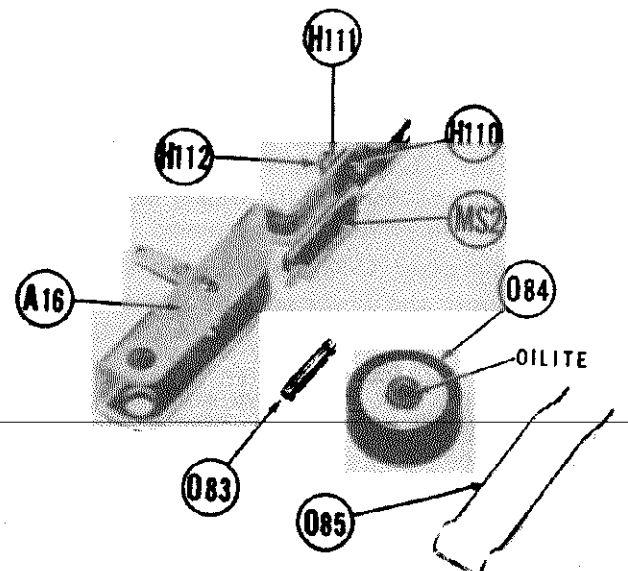
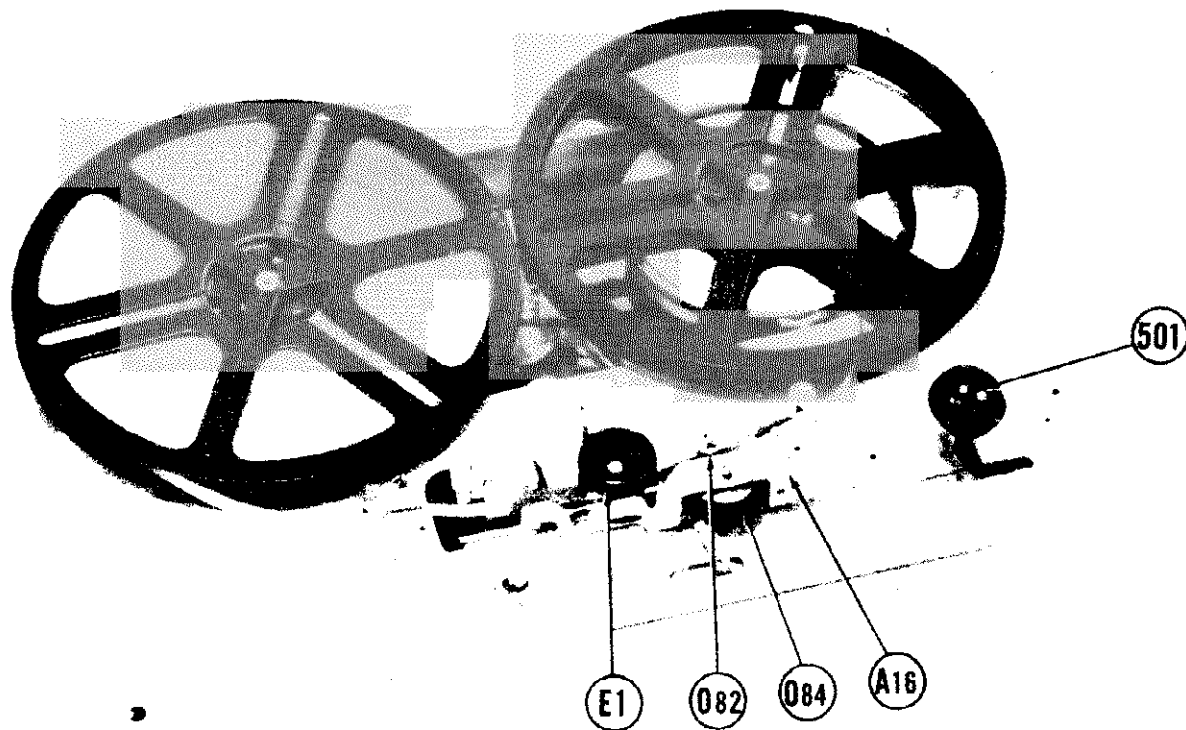

Fig. 9—Pressure Wheel Assembly
Fig. 10—Reeling Mechanism—Reels and Ribbon in position
4. A pressure wheel (O-84 Fig. 9) and a pressure pad (MS-2) are assembled on a bracket (A-16) (Also see Fig. 10) which is engaged by the control lever (501) to press the ribbon against the capstan (O-82) and the record-play head (E-1) respectively during the record or play operation. The rubber tire pressure wheel has an "Oilite" bearing requiring very little additional lubrication.
(c) The pressure wheel (O-84, Fig. 10) is moved away from the capstan (O-82) to allow free movement of the ribbon during the rewind operation.